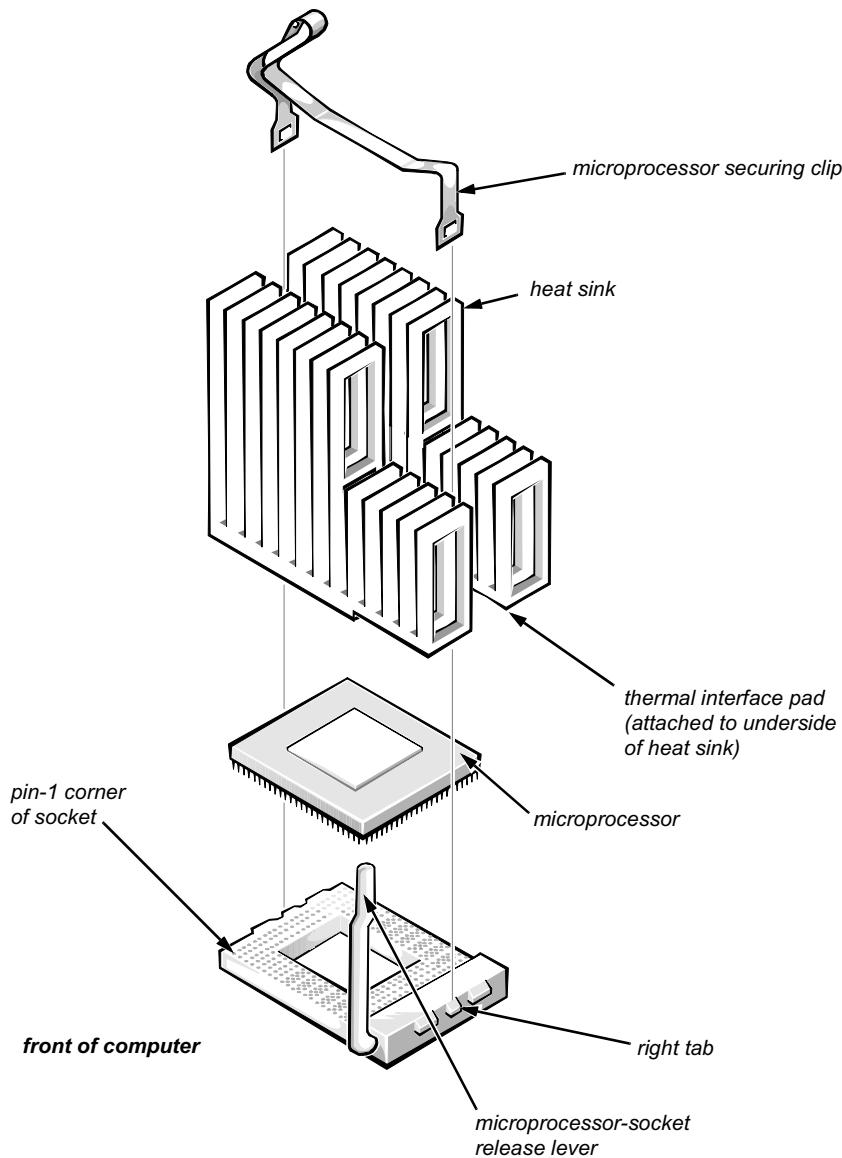

Figure 4-20. Microprocessor Removal
- 2. Push outward and then upward on the microprocessor-socket release lever to rotate the lever to its fully vertical position (see Figure 4-20).**